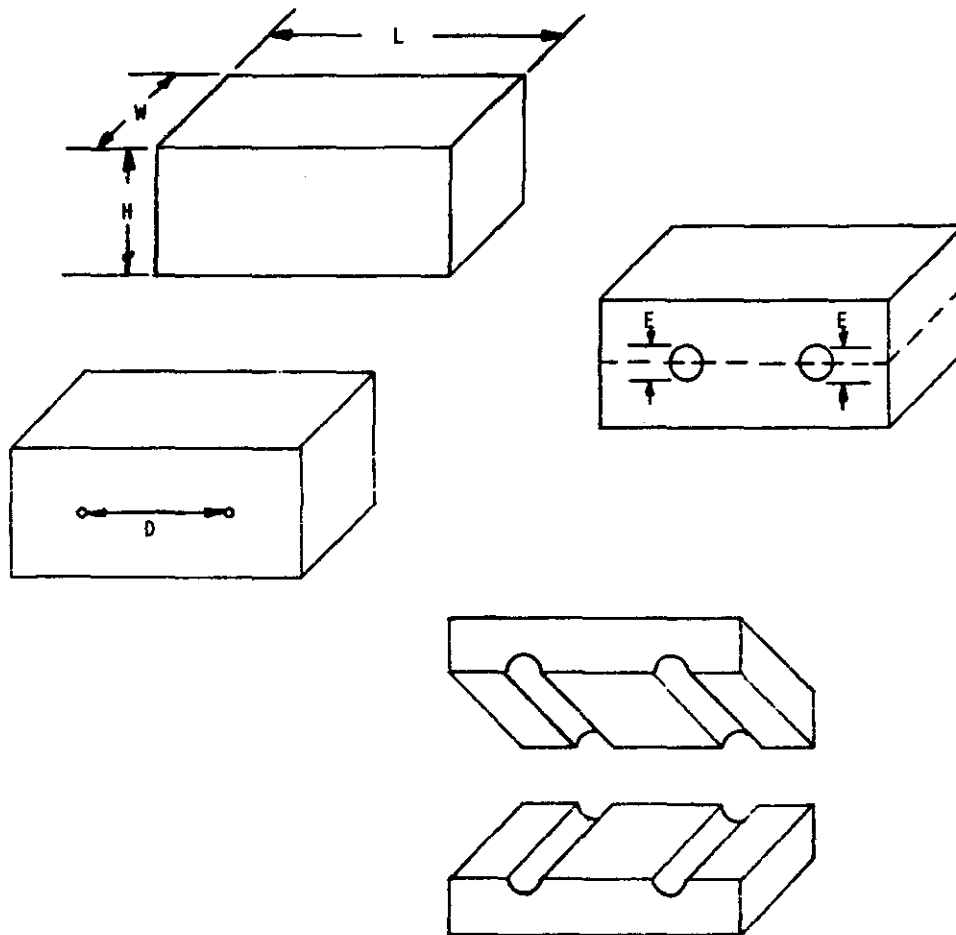

Fig. 5-4
- a. Mesh screws together and place in checking stands made up to Fig. 5-4.